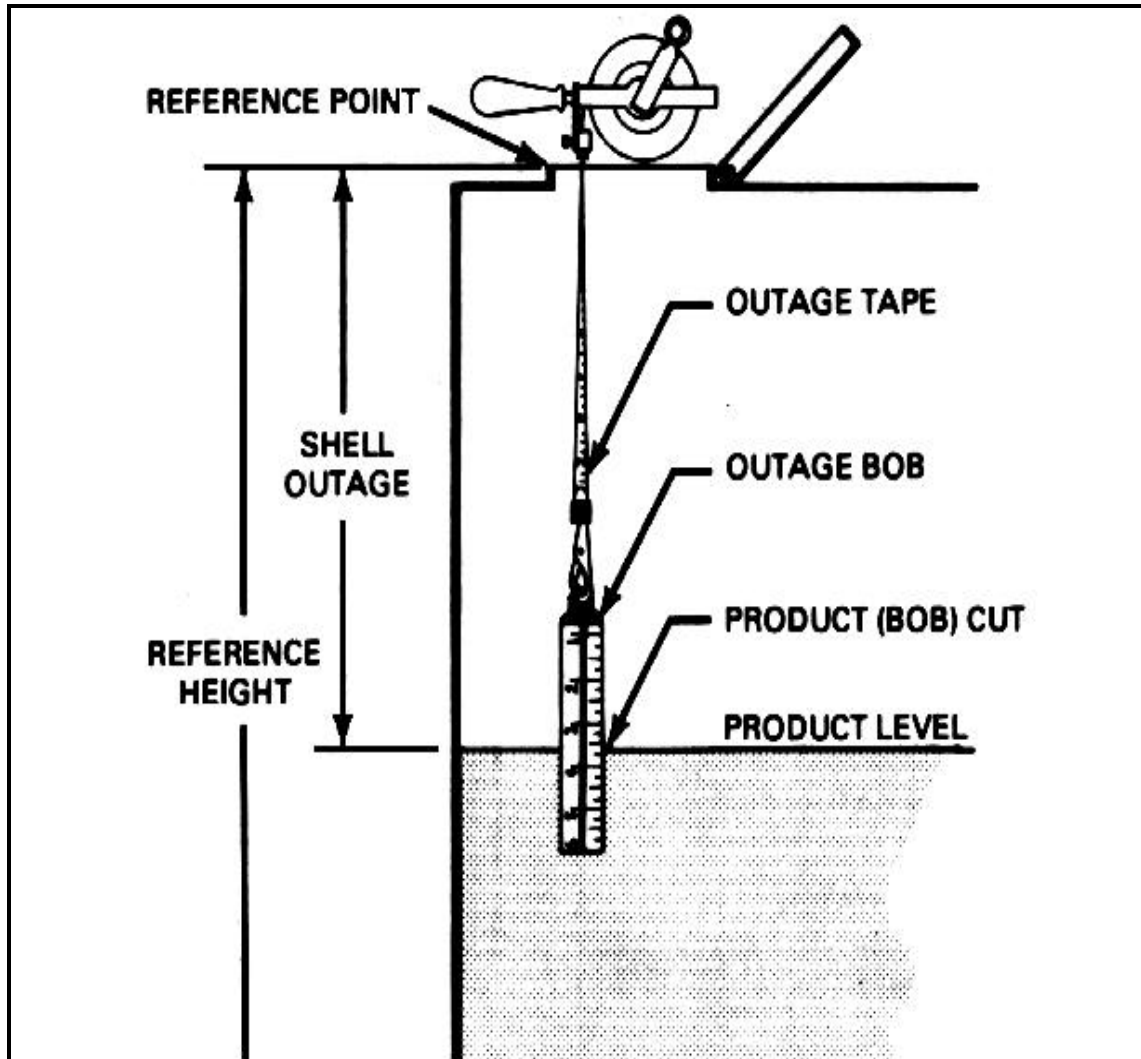

Figure 3-17. Taking an outage reading using an outage tape and bob
- Outage tape and bob use. To get an outage gage or ullage using an outage tape and bob, refer to Figure 3-17, page 3-17, and follow the steps below.